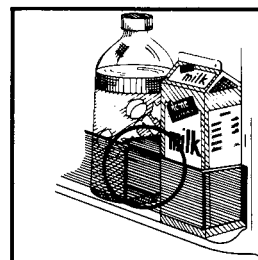

FIGURE 24
**Huggers.** Some models feature two handy shelf huggers that slide back and forth along door shelves to accommodate storage needs. See Figure 24.